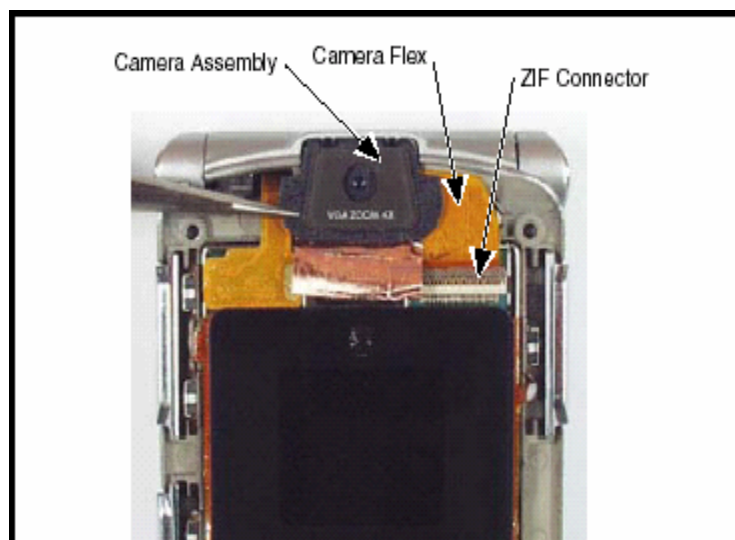

**Fig 12**
7. Lift the flip cover away from the flip assembly. Be careful not to damage the display flex cable (see Figure 12).